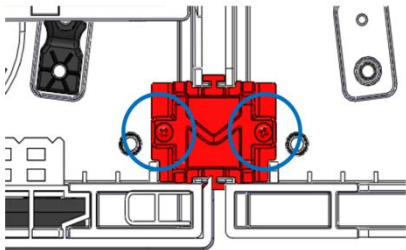

Figure 11
1.2.0 Screw the plastic expansion part with two M3X6 mm screws (Fig. 11).